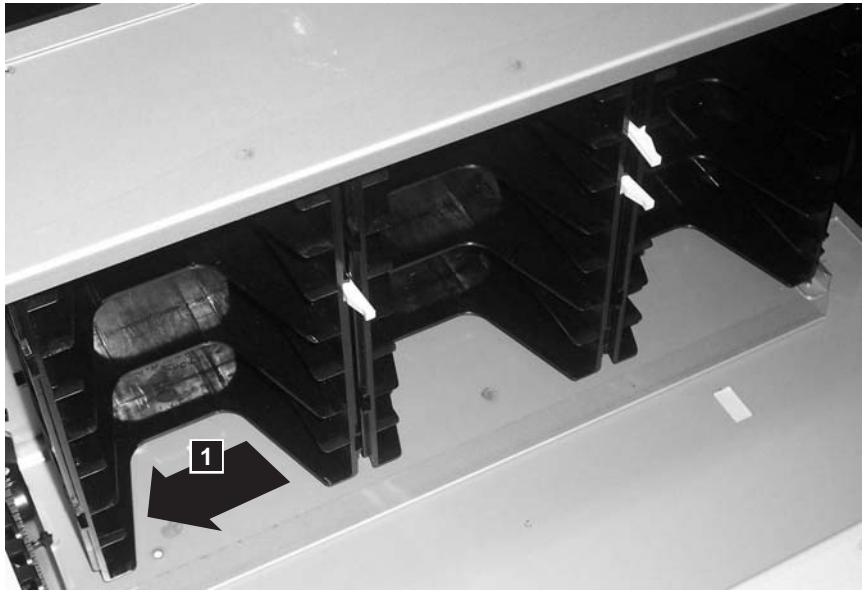

Figure 8-48. Removing a storage column
- Pull the storage column toward the front of the library (**1** in Figure 8-48) to disengage the locking tabs on the back of the column.